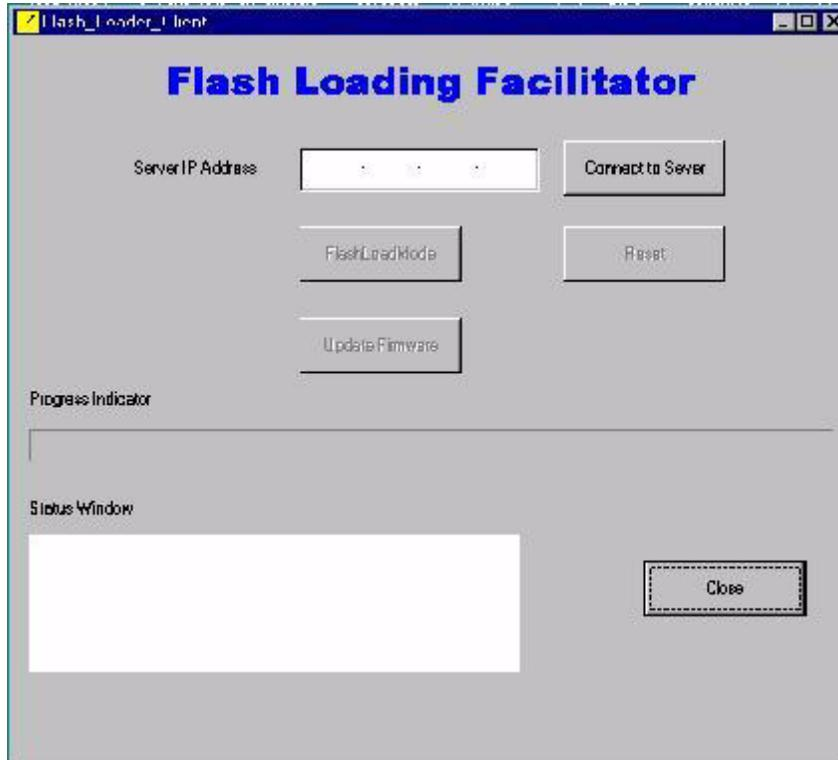
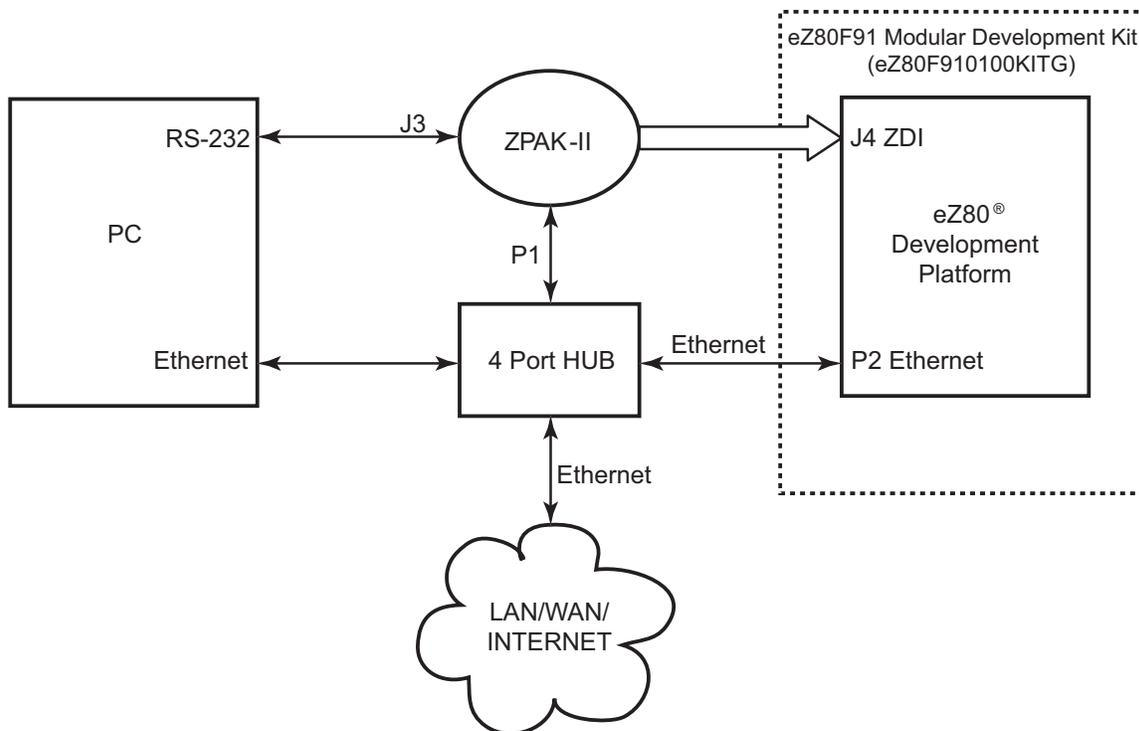

Figure 1. The GUI for Flash Loader Utility
Figure 2. Setup to Demonstrate the Flash Loader Utility
Figure 1 on page 7 and Figure 2 on page 10 display the flow of Flash_Loader_Client.exe client-side program (see Appendix A—Flowcharts on page 13).
This section contains all the requirements and instructions to demonstrate the Flash Loader utility developed for the ZTP-based embedded eZ80Acclaim!® webserver. To demonstrate the Flash Loader utility, the eZ80F91 Modular Development Kit (eZ80F910100KITG), the ZPAK II unit, and the PC must be set up as shown in Figure 2. The setup shown below specifically refers to ZPAK II. For setup with other debug tools, for example, USB Smart Cable, Ethernet Smart Cable, and so on, refer to their respective user manual.
2. Make the connections according to Figure 2 on page 10. Use the jumper settings provided above.